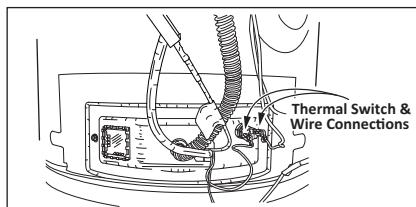

Figure 51 - Thermal Switch and Wire Connections
- 5** Disconnect both wire connectors at the thermal switch (See Figure 51).